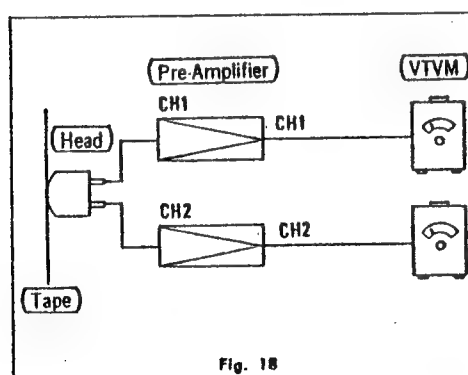

Fig. 18
2. Connect two VTVMs to the output of the left and right output channels as shown in fig. 18.